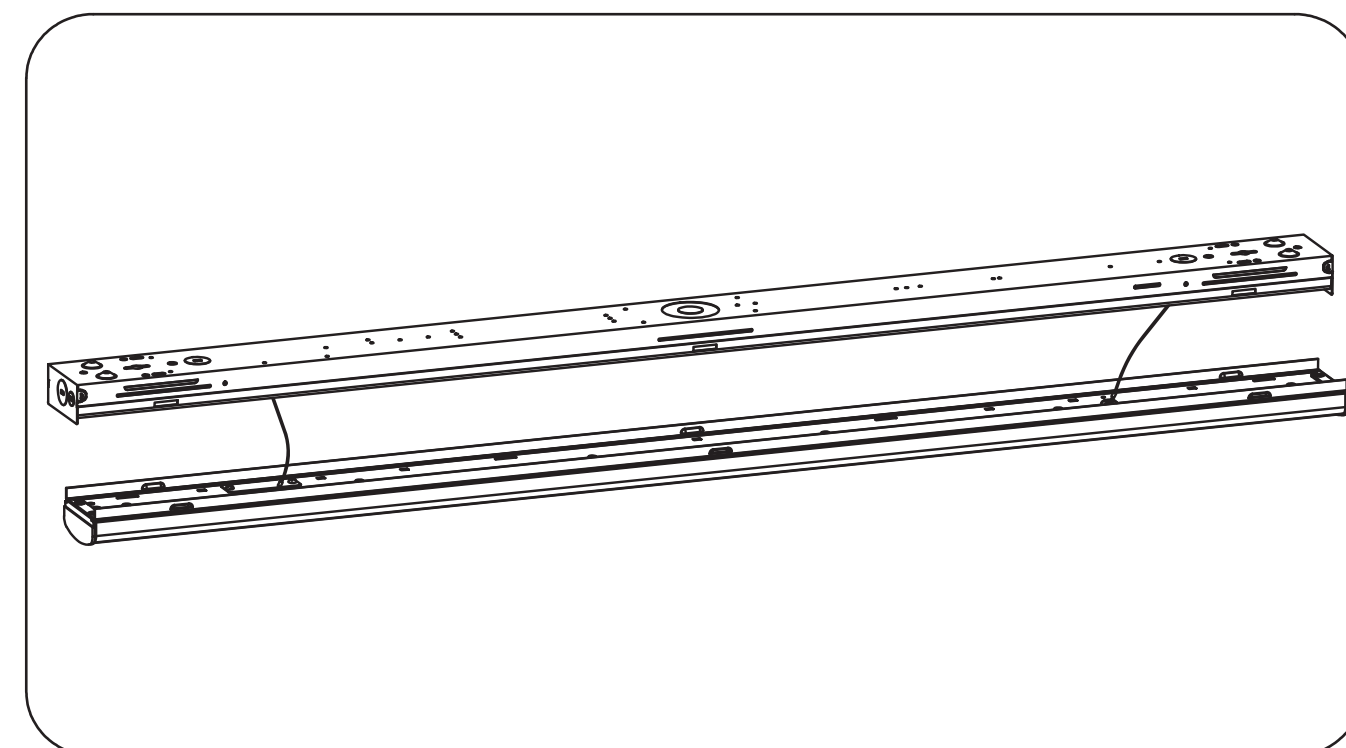
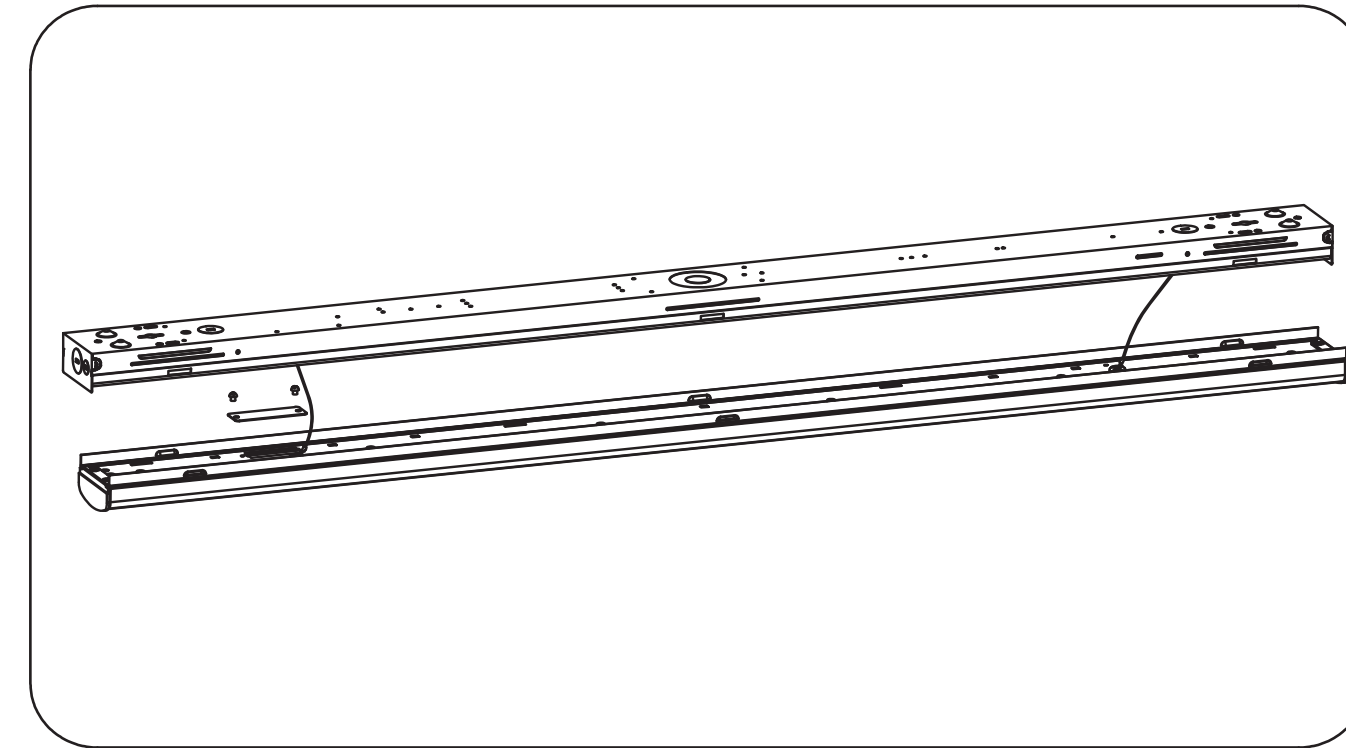

Figure 1
Figure 2
Step 1: Remove the plate before or after you install the fixture. (Figure 1 and Figure 2)